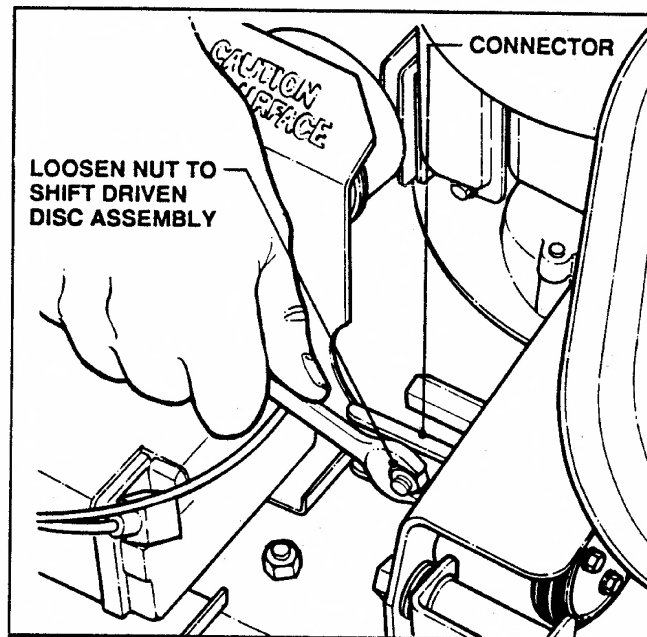

FIGURE 6
STEP 10: If adjustment is needed loosen nut on connector, and shift driven disc assembly until desired clearance is achieved as shown in Figure 6. (Connector is slotted to allow disc assembly to slide back and forth). Retighten connector nut. Test mower after adjusting.